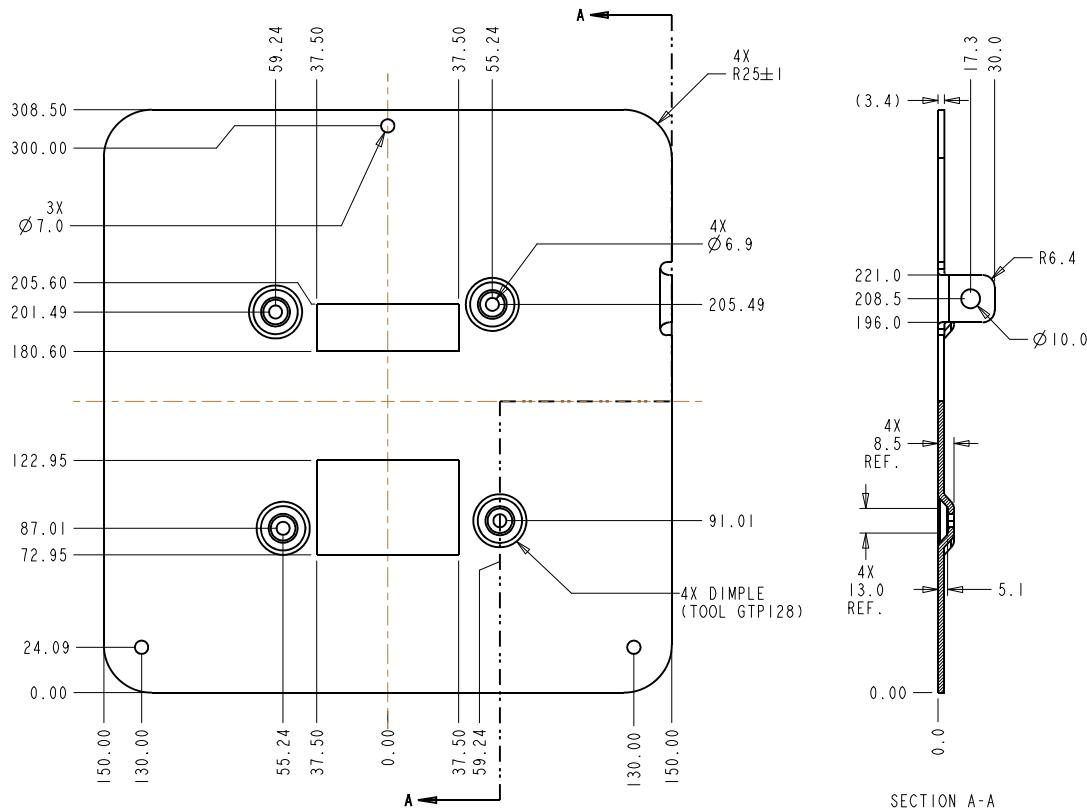

Figure 5: SMART-MR10/15 Mounting Kit, AG GPS 262 (01018623)
- Mounting Kit, AG GPS 262 (part number 01018623), shown in *Figure 5* on *page 30*.